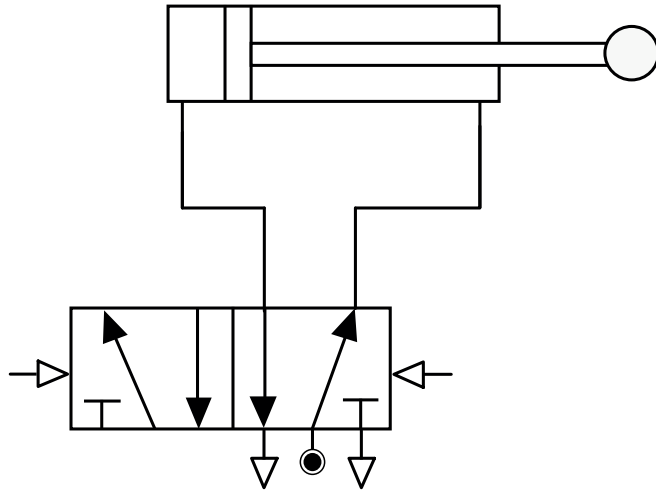

Fig. 2
(b) Fig. 2 shows a pneumatic cylinder and a control valve.
- (iv) Complete **Table 1** below for the valve shown in **Fig. 2.** [4 marks]